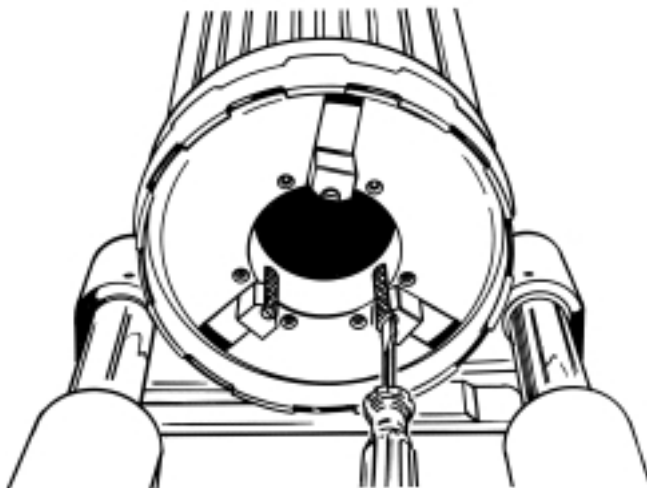

Figure 23 – Replacing Jaw Inserts
1. **To remove insert** — place screwdriver in insert slot and turn 90 degrees in either direction. Remove insert. (Figure 23)